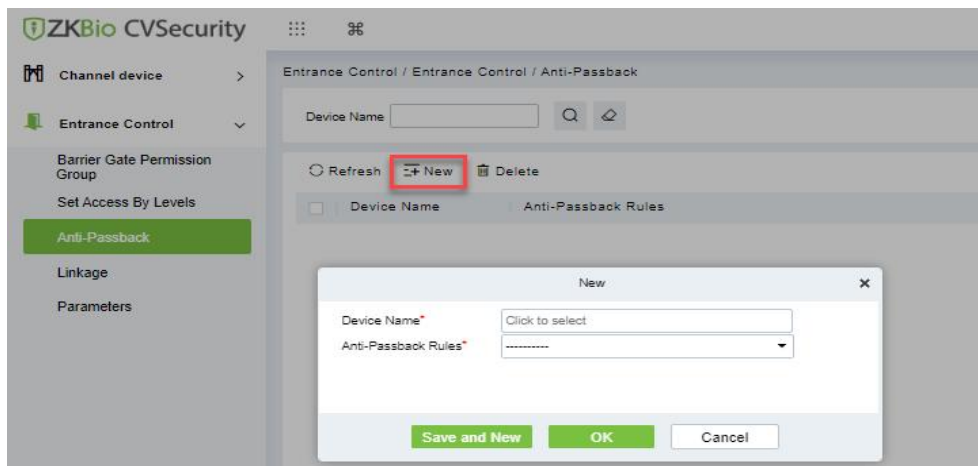

Figure 12-35 Add Anti-Passback Interface
Step 3: Select the Anti-Passback rule and click **OK** to complete the setting, as shown in Figure 12-35. The newly added Anti-Passback settings are displayed in the list of selected Anti-Passback rules.